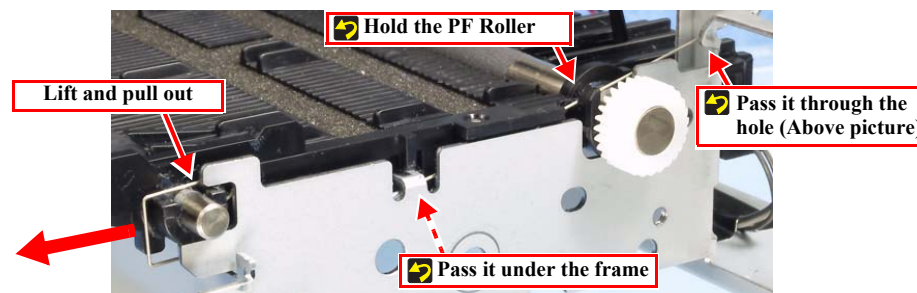

Figure 4-83. Removing the PF EJ Ground Spring
- See *Fig. 4-83* and install the Ground Spring.